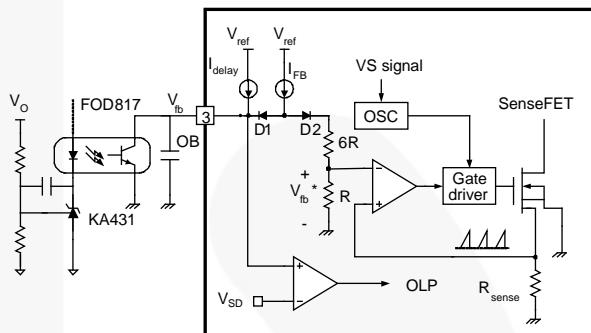

Figure 14. Valley Switching Pulse-Width Modulation (VS-PWM) Circuit
2. Feedback Control: This device employs current-mode control, as shown in Figure 14. An opto-coupler (such as the FOD817) and shunt regulator (such as the KA431) are typically used to implement the feedback network. Comparing the feedback voltage with the voltage across the R_{sense} resistor makes it possible to control the switching duty cycle. When the reference pin voltage of the shunt regulator exceeds the internal reference voltage of 2.5 V, the opto-coupler LED current increases, pulling down the feedback voltage and reducing the drain current. This typically occurs when the input voltage is increased or the output load is decreased.
2.1 Pulse-by-Pulse Current Limit: Because current-mode control is employed, the peak current through the SenseFET is limited by the inverting input of PWM comparator (V_{FB}^*), as shown in Figure 14. Assuming that the 225 μ A current source flows only through the internal resistor ($6R + R = 12.6\text{k}\Omega$), the cathode voltage of diode D2 is about 2.8 V. Since D1 is blocked when the feedback voltage (V_{FB}) exceeds 2.8 V, the maximum voltage of the cathode of D2 is clamped at this voltage, clamping V_{FB}^* . Therefore, the peak value of the current through the SenseFET is limited.